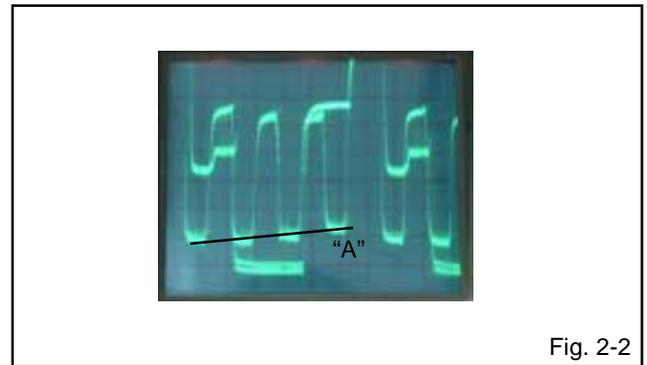

Fig. 2-2
5. Press the VOL. UP/DOWN button on the remote control until the section "A" becomes as straight line. **(Refer to Fig. 2-2)**